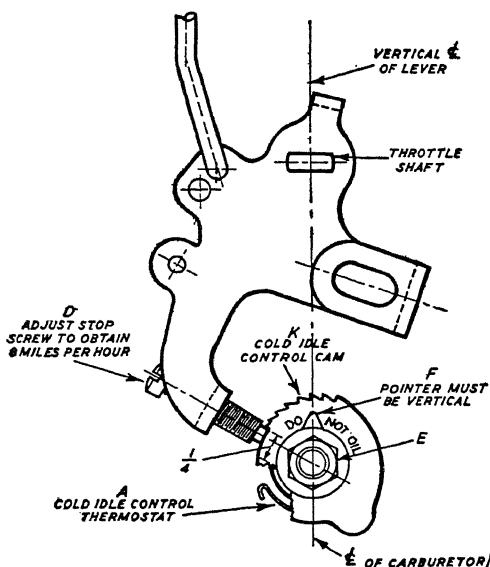

Fig. 109. Buick Cold Idle Control
**Cold Idle Control.** The cold idle control is designed to provide a faster idle speed during the warm-up period of the engine which insures adequate lubrication for the engine and prevents stalling. The speed of the engine increases or decreases as the temperature of the manifold changes. The cold idle control consists of a thermostatically operated cam *K*, which is shown in Fig. 109. This is mounted on the intake manifold heat jacket. This cam serves as a stop for the throttle stop screw *D*. The variable speed mentioned is secured by using the thermostat *A*, which drives the cam *K*. When the riser is cold, the thermostat *A* rotates the cam *K* in a counter-clock-wise direction, causing its thick side to contact with the idle
the spring *A* is not capable of rotating the cam *K* while the idle adjusting screw is contacting the cam. After the engine has been warmed up, the throttle stop screw *D* should now contact the cam *K* on its thin portion, and within the  $\frac{1}{4}$ -inch limit adjoining the first raised section of the cam as shown in Fig. 109. In case the throttle stop screw does not contact within the limits shown, the cam hub with the pointer attached may be rotated slightly in order to bring the  $\frac{1}{4}$ -inch section under the idle screw. If it is necessary to rotate the pointer more than 5 degrees from its former vertical position, a complete new cam assembly should be installed. It is important to see that no oil is used on the cold idle cam.